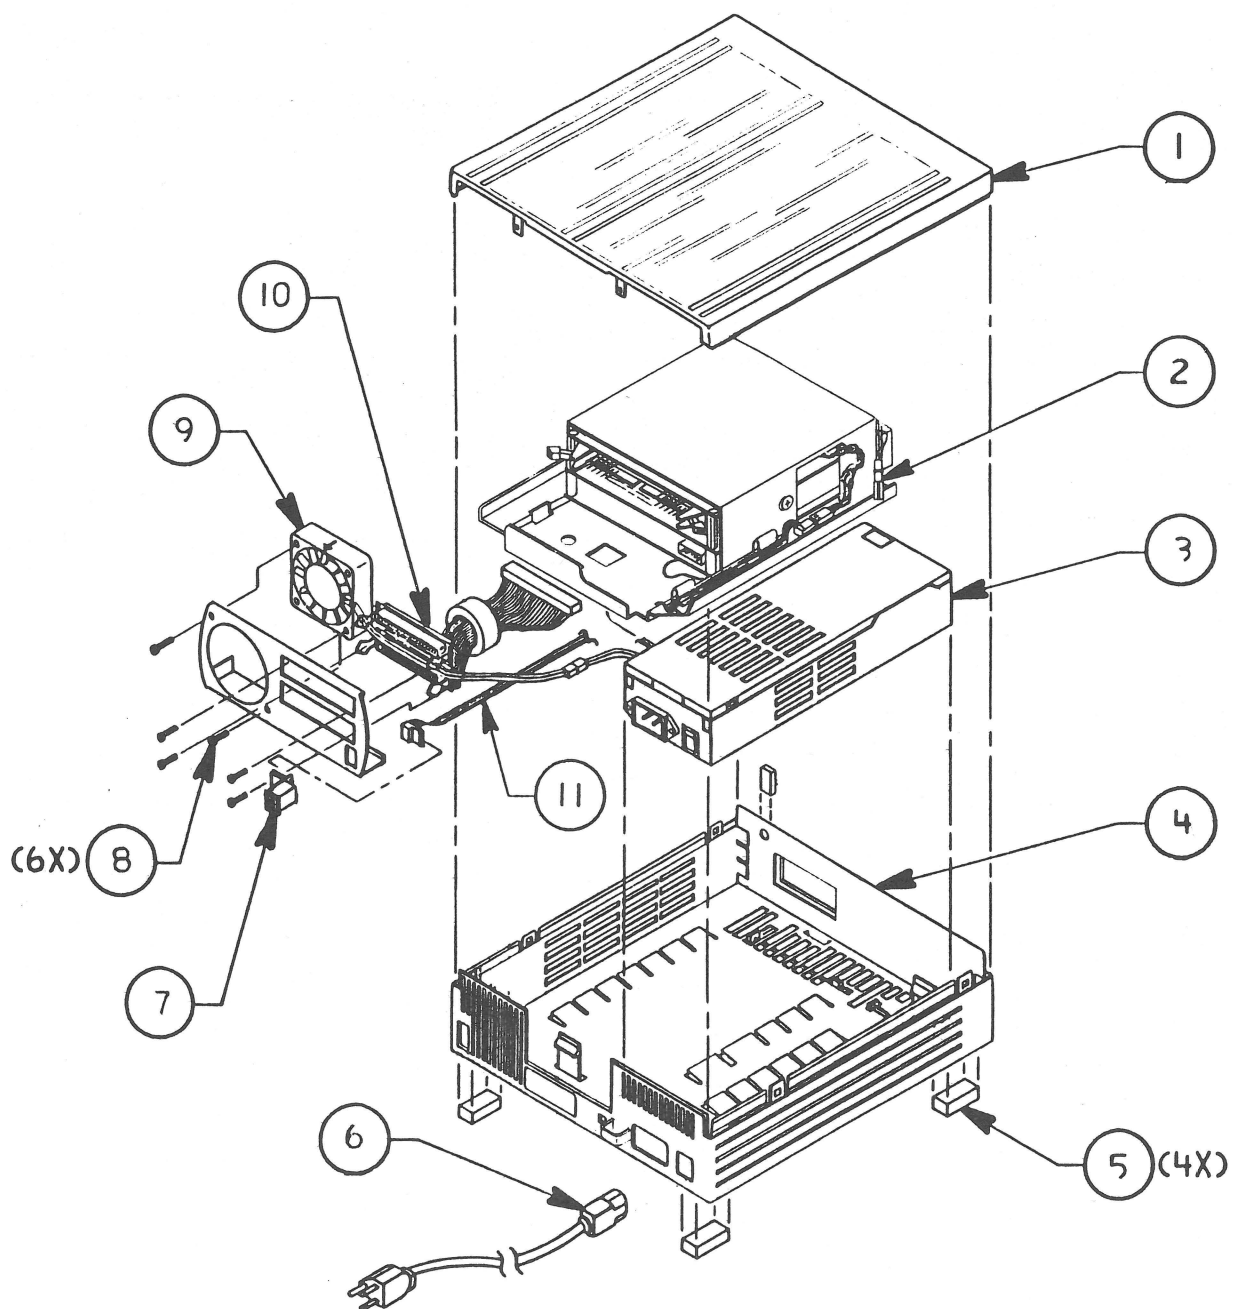

FIGURE 1
□ TAPE BACKUP 40SC - COMPLETE ASSEMBLY (Figure 1)